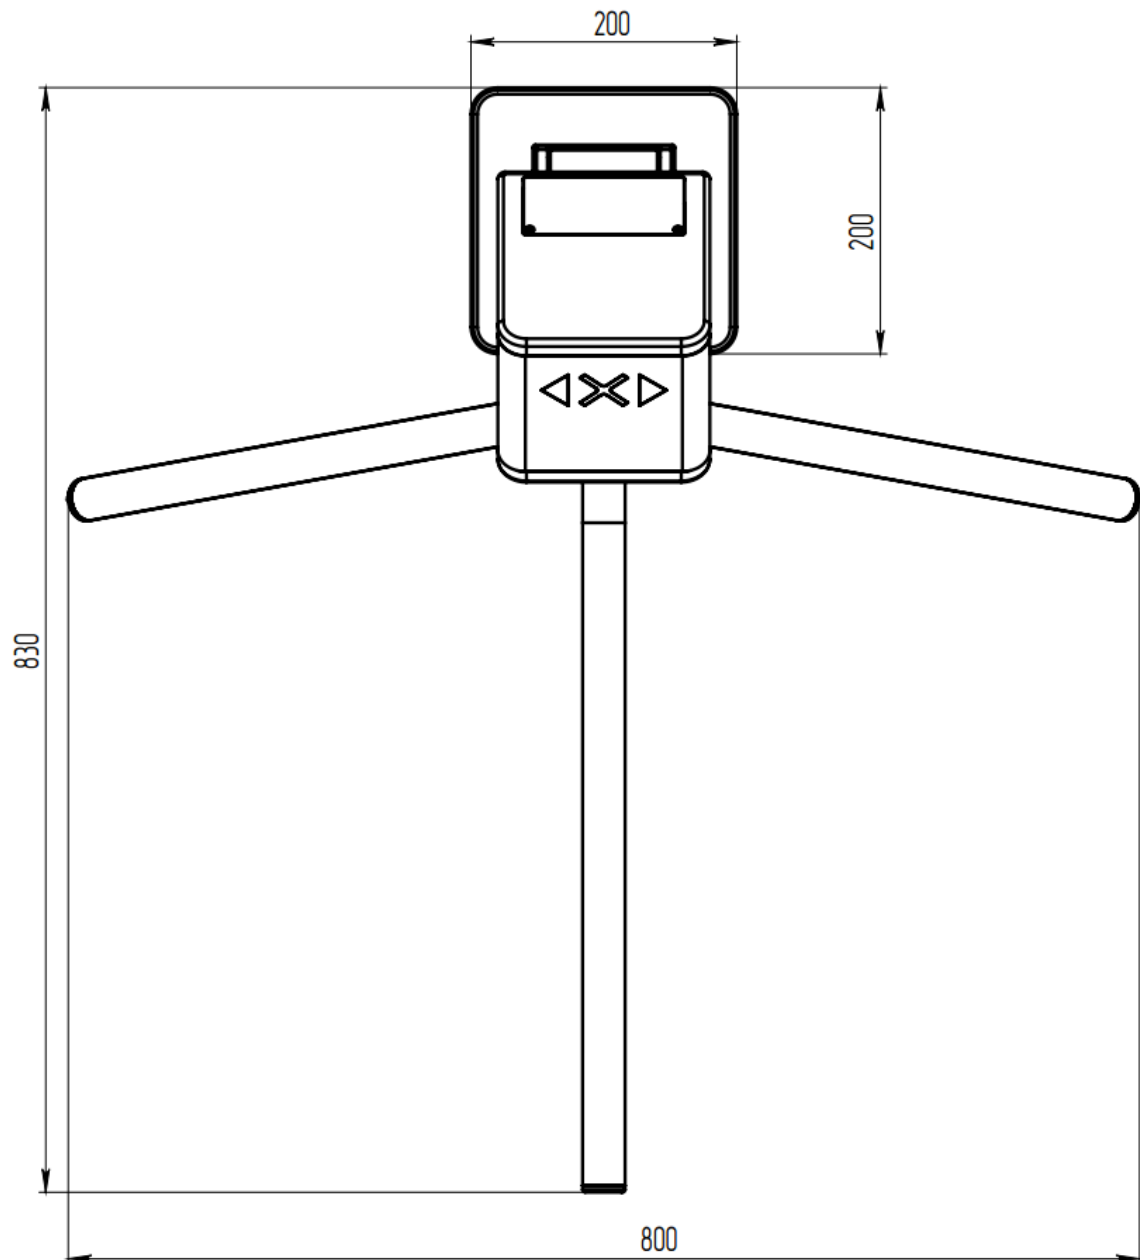

Figure 1 – Overall dimensions of the turnstile
3.3.4 Figure 1 –overall dimensions of the turnstile.